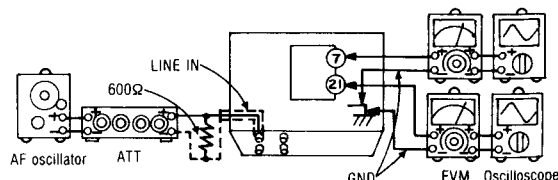

Fig. 10
1. Test equipment connection is shown in Fig. 10.